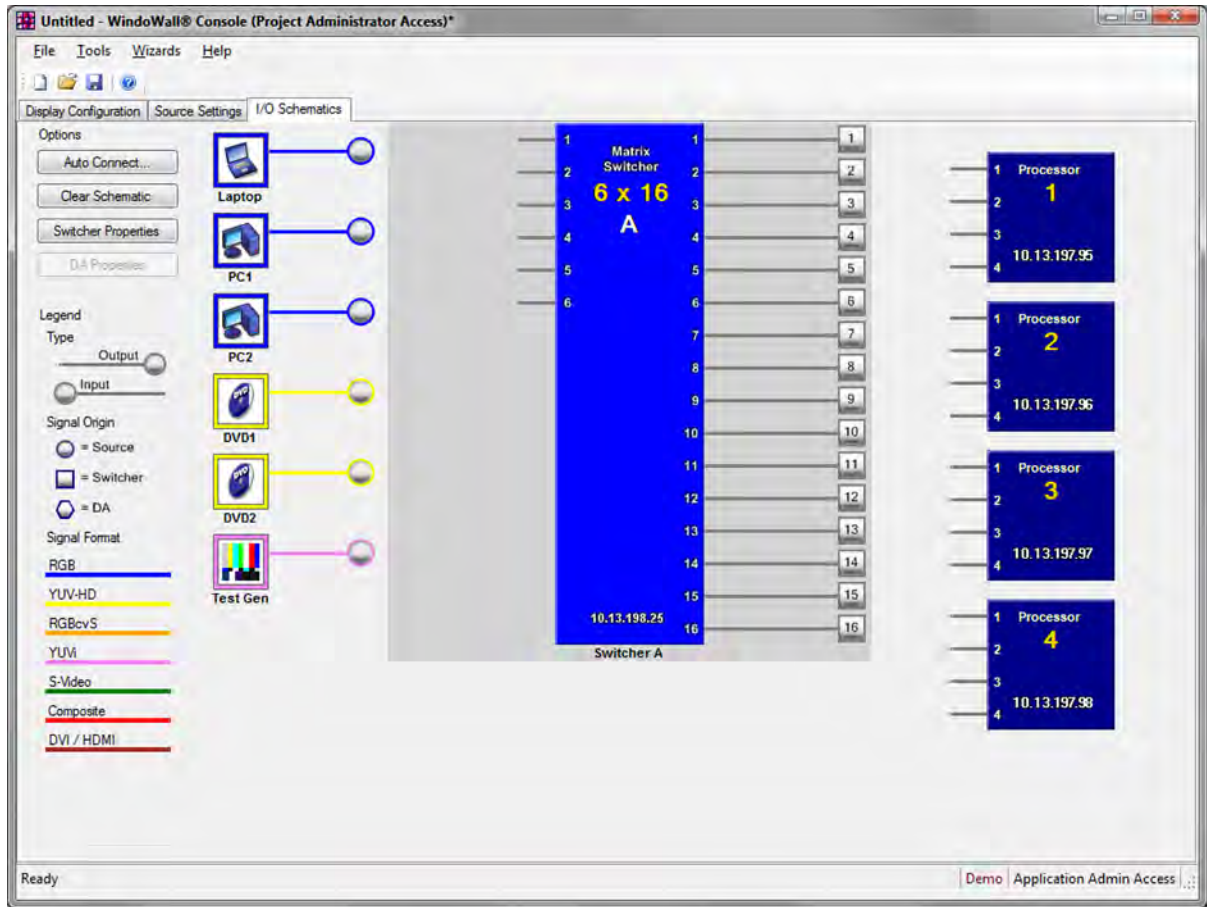

Figure 20. I/O Schematics Screen after Wizard Completion
8. On the finish (“Congratulations”) screen, click **Done**. The Wizard closes, and the **I/O Schematics** screen is displayed in the WindoWall Console window (see figure 20 on the next page).